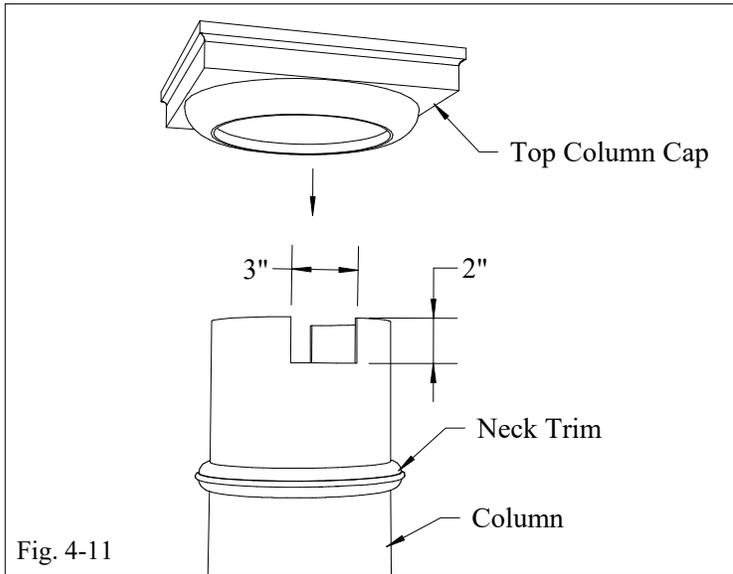

Fig. 4-11
-Cut a notch on opposite sides at the top of the column 3" wide and 2" deep (see Fig. 4-11). This is to allow room to attach the post to the post top bracket. Notches will be covered by the column cap. NOTE: Notches required on single headers only.